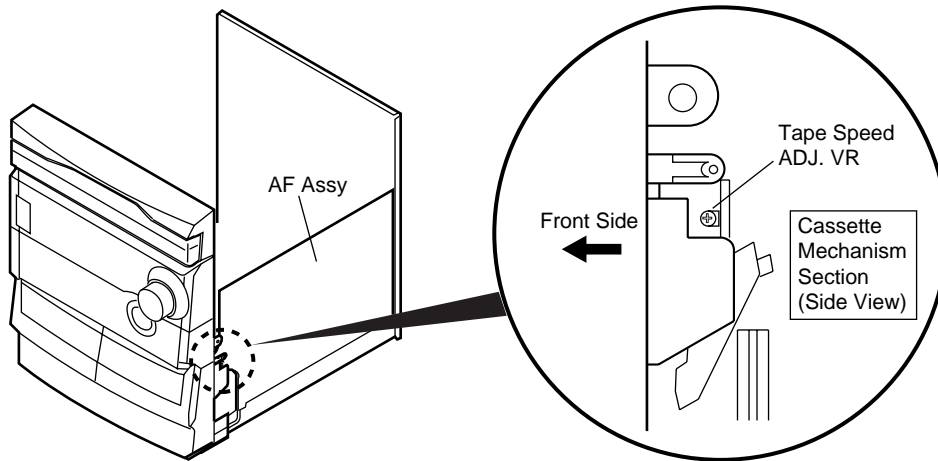
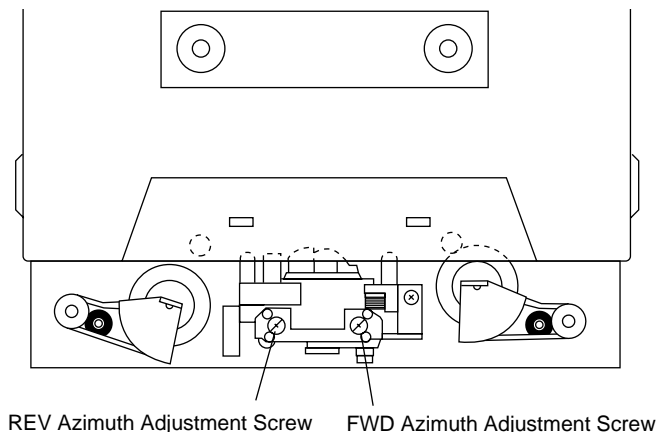

Fig.8 Tape Speed ADJ. Point
Fig.10 Head Azimuth Adjustment Screw
• Adjustment points and test points are shown in Fig.8, Fig.10 and Fig.11.